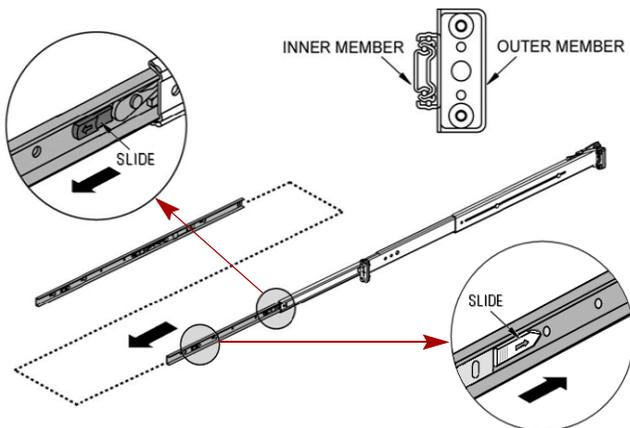

Figure 4. Inner Rail Release Clip
1. Fully extend the rails, slide the red button on the inner member forward, and remove the inner rail (Figure 4). Slide the intermediate member back in.